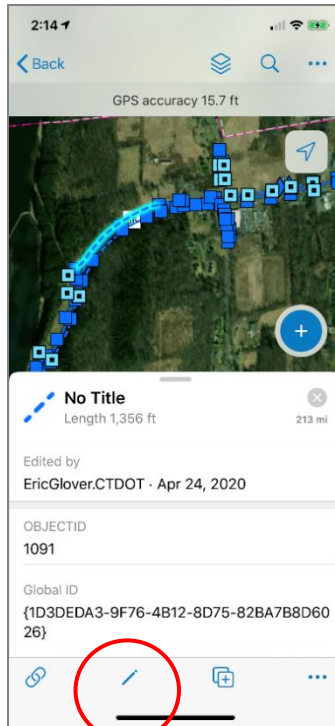

Figure 45. Edit an existing feature in the ArcCollector app.
- The attribute list of that feature will appear. Click on the Pen Icon to edit the attributes and the geometry (Figure 45, below). Press "Submit" once edits are complete.